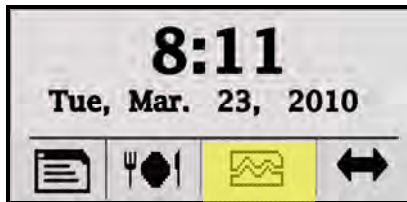
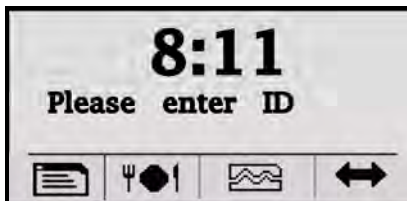

Figure 31: MTX-15 Normal Startup Display
Figure 32: Enter Employee ID for Break
Step 1. From the normal main display (see **Figure 31**) press the **break**  function button to enter an employee ID for a break punch (see **Figure 32**).